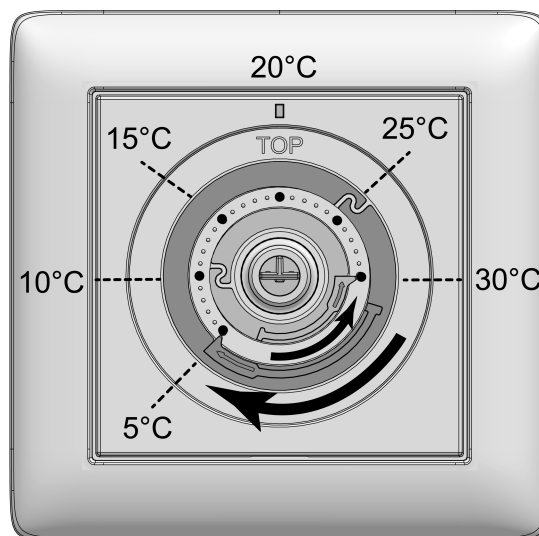

Figure 4: Adjustment rings for temperature limit
In the middle position, the device regulates to approx. 20 °C setpoint temperature. The room temperature reached depends on the installation location of the device and the ambient conditions. The lowest setpoint temperature is approx. 5 °C and the highest setpoint temperature is approx. 30 °C (Figure 4).
- Pull the control knob (5) off the central plate (4) so that the adjustment rings (7) are visible (Figure 4). The temperature values shown in the picture are for orientation purposes.